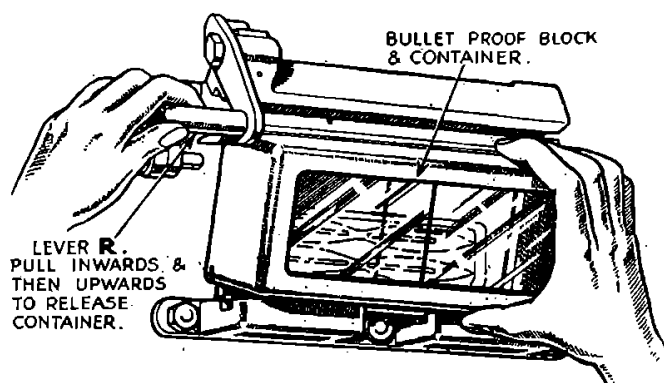

Figure 2. Changing Glass Block Container
removed by pulling the lever (R) towards the driver until the lever disengages from the eccentric pin (See Fig. 2). The lever may then be lifted vertically and this, in turn, raises the top slide and allows the glass block to be removed and replaced by a spare which should be locked in position by a reversal of the above procedure.